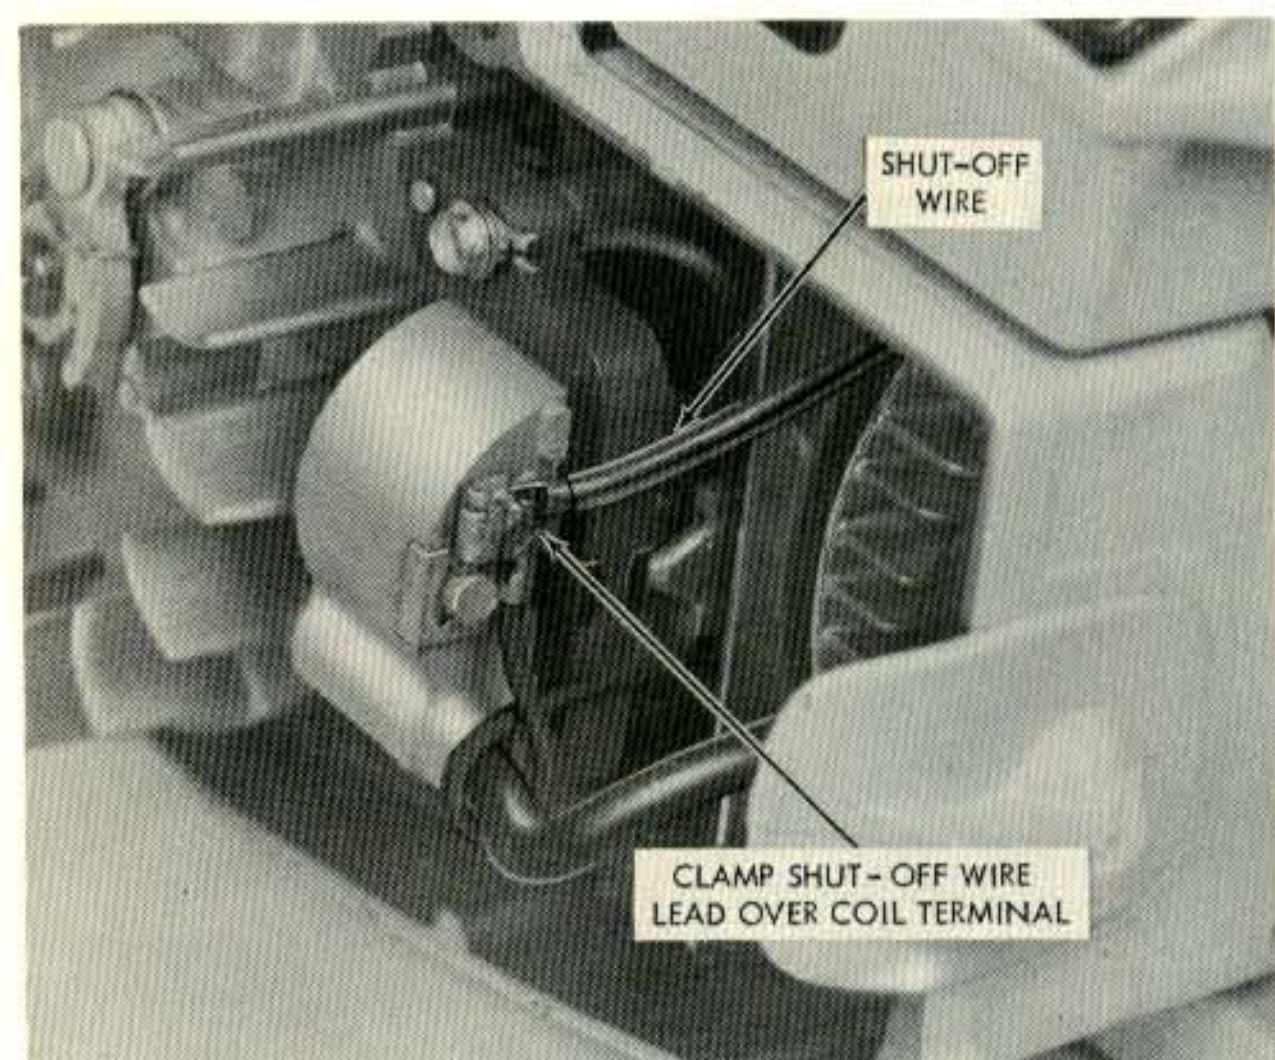

Figure 6. Shut-off Connection
2. Feed the 9-1/2-inch Shut-off Wire (P/N 57466) between the bottom of the airbox and the crankcase cylinder cooling fins, from the exhaust side of the engine to the coil side. Clamp the coil terminal (on the end of the Shut-off Wire) on the terminal on the coil (Figure 6).